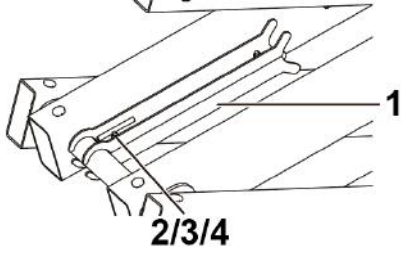

Fig. 3.19 Assembling the safety support
- b. After assembling, test whether the safety support can be placed on the left support, as shown in Fig. 3.19;